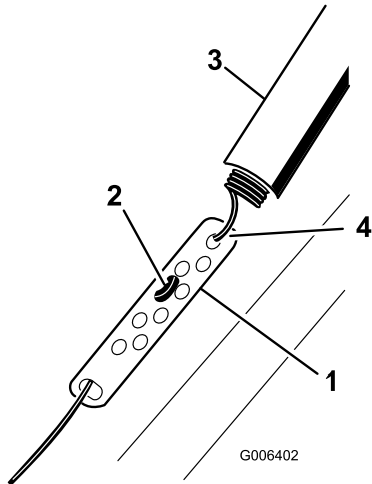

Figure 18
1. Slide up the spring cover and unhook the spring from the adjuster link (Figure 18).
2. Move the Z-fitting to a higher or lower hole on the adjuster link as needed to obtain the 1/16 inch to 1/8 inch (2 mm to 3 mm) gap between the control bar and the handle (Figure 18).